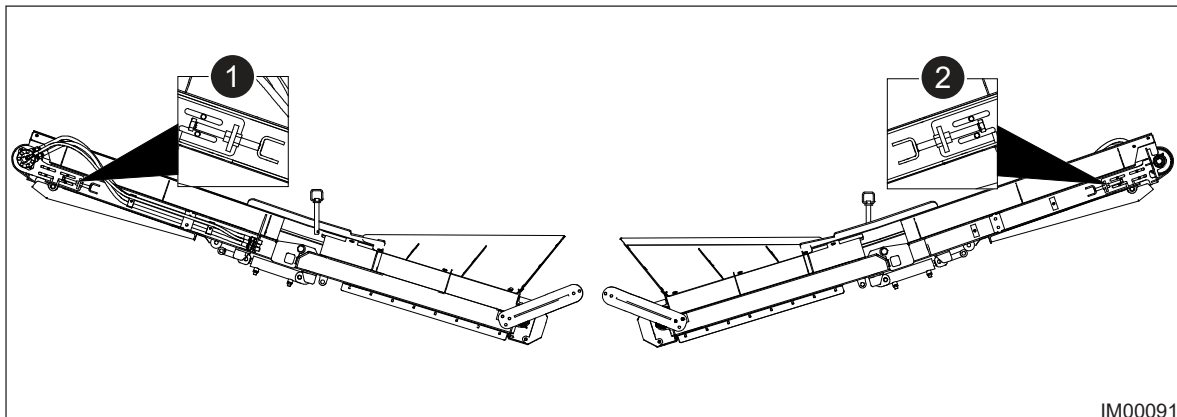

Fig: 11.30 - Belt Adjusters
4. Tighten the belt by rotating the adjusters clockwise and evenly, on both sides of the conveyor (Items 1 & 2, Fig: 11.30). It is important to turn each adjuster the same rotation, otherwise, the belt will track off alignment when put into operation. Do not over tighten the belt.
- Use a spanner to rotate the right side adjuster (Item 1, Fig: 11.30) a 1/4 turn (clockwise), then observe the belt alignment. Repeat this step until alignment is satisfactory.
- If the belt was under too much tension, rotate the left side adjuster (Item 2, Fig: 11.30) a 1/4 turn (counter-clockwise), then observe the belt alignment. Repeat this step until alignment is satisfactory.
- Use a spanner to rotate the left side adjuster (Item 2, Fig: 11.30) a 1/4 turn (clockwise) then observe the belt alignment. Repeat this step until alignment is satisfactory.
- Or if the belt would be under too much tension, rotate the right side adjuster (Item 1, Fig: 11.30) - one turn (counter clockwise) then observe the belt alignment. Repeat this step until alignment is satisfactory.